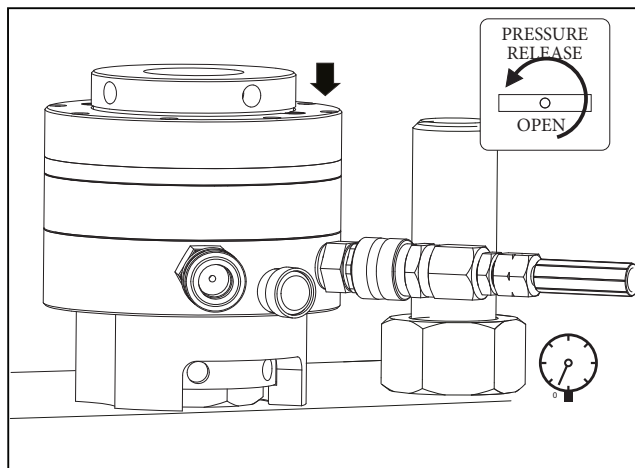

FIGURE 18, PRESSURE RELEASED - NUT DETENSIONED
8. Release the hydraulic pressure by SLOWLY opening the pump pressure release (return to tank) valve. Verify that the oil pressure gauge indicates zero (0) psi/bar. See Figure 18. The studs are now fully de-tensioned.